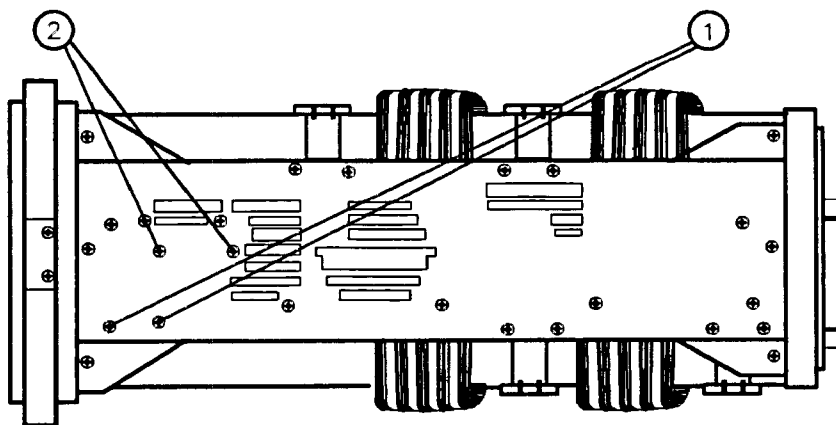

Figure 3-18. A9 Mounting Screws at Right Frame
4. Remove two screws (1) securing the A9 Input Attenuator to the right-side frame. See Figure 3-18. *Screws (2) are identified for another replacement procedure.*
4. Attach the attenuator to the right-side frame, using two flathead screws (1). See Figure 3-18.
3. Remove two screws (2) securing the A12 RF switch bracket to the right-side frame. See Figure 3-18.
3. Mount the A12 Assembly to the analyzer’s right-side frame, using two flathead screws (2). See Figure 3-18. Use caution to avoid damaging any cables.